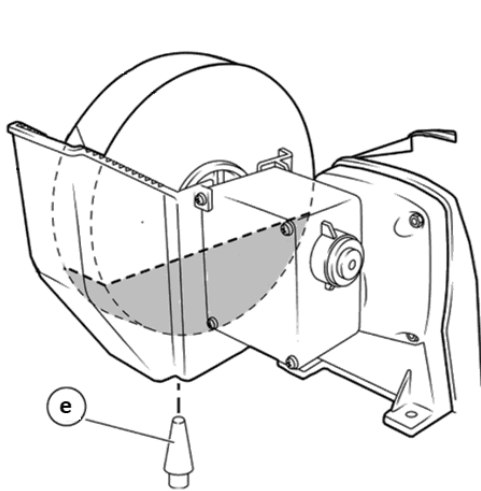

Fig. 5a
- Drain the water from the water container (2) by removing the drain bung (e). See Fig. 5a.